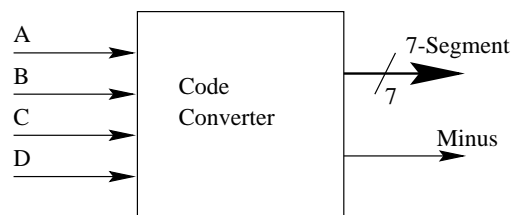

Figure 12: 2's Complement to Seven-Segment Converter
2. Design a two's complement binary to 7-Segment converter shown in Figure 12 using a 4 to 16 Decoder and OR gates. Remember that 7-Segment displays are active low. Use an eighth output signal for the minus sign. Create a truth table and draw the complete circuit on paper and bring the final design with you to the lab.